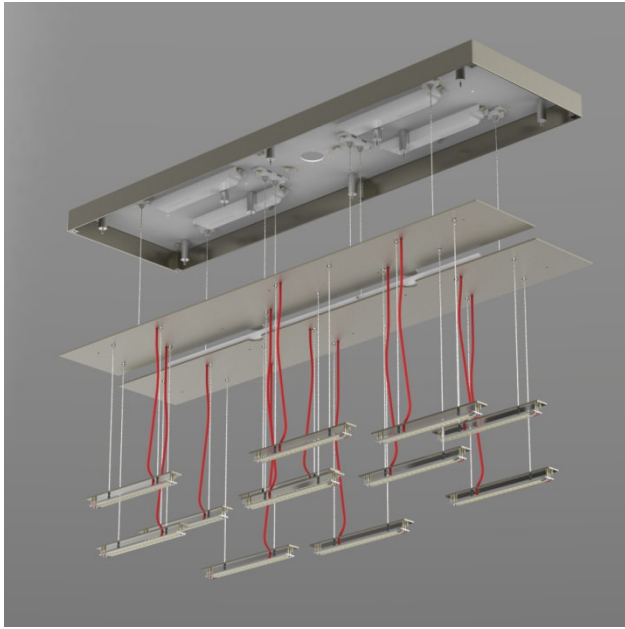

Figure 4
- Secure second housing plate to canopy using the same method. (Figure 4)
- While the grips are smaller, adjustment method is identical to that described in Step 3/Figure 4.